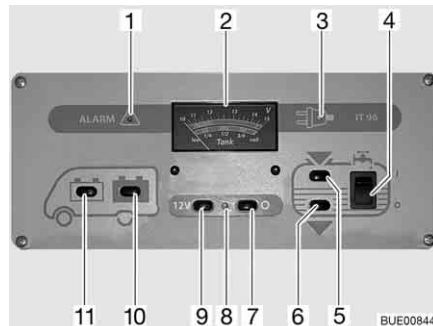

Fig. 132 Panel IT 96-2
The 12 V main switch (Fig. 132,7 and 9) switches the panel and the 12 V power supply to the living area on and off.
*Switching on:* ■ Press switch (Fig. 132,9) "12 V": The 12 V living area power supply is switched on. The indicator lamp (Fig. 132,8) lights up green.
*Switching off:* ■ Press switch (Fig. 132,7) "O": The 12 V living area power supply is switched off. The indicator lamp (Fig. 132,8) goes out.
With the V/tank gauge (Fig. 132,2), note the top scale. The gauge automatically lights up as soon as a switch is pressed.
- Press switch (Fig. 132,11) "": The battery voltage of the starter battery is displayed.
- Press switch (Fig. 132,10) "": The battery voltage of the living area battery is displayed.
The V/tank gauge is for the indication of the quantity of water or waste water. With the V/tank gauge (Fig. 132,2), use the bottom scale. The gauge automatically lights up as soon as a switch is pressed.
- Press switch (Fig. 132,5) "": The volume of water is displayed.
- Press switch (Fig. 132,6) "": The volume of waste water is displayed.
*Switching on:* ■ Press the upper part of the rocker switch (Fig. 132,4) "I": The water supply is ON.
*Switching off:* ■ Press the lower part of the rocker switch (Fig. 132,4) "O": The water supply is OFF.
The red "ALARM" warning light (Fig. 132,1) flashes as soon as the voltage of the living area battery falls below 11 V (measured under operation) and there is a risk of a total discharge.
The 12 V indicator lamp (Fig. 132,8) illuminates whenever the 12 V main switch (Fig. 132,9) is switched on.
The yellow 230 V indicator lamp (Fig. 132,3) illuminates whenever line voltage is available at the transformer/rectifier input.